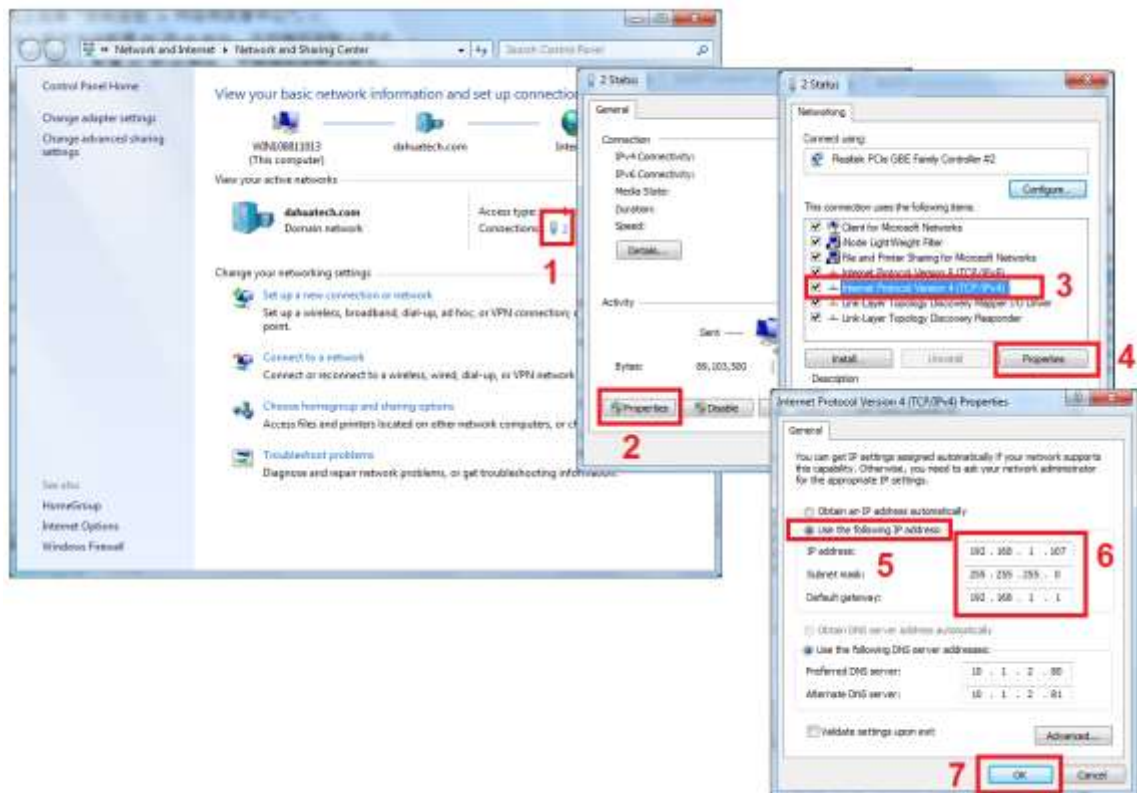

Figure 4-1
- 2) Change PC IP in the same IP segment with the NVS (192.168.1.108). For Windows OS, from **Control panel->Network and Internet->View network status and task->Local connection->Properties->Internet protocol version 4(TCP/IP)->Properties**, set PC IP address, subnet mask, default gateway and etc. See Figure 4-1.